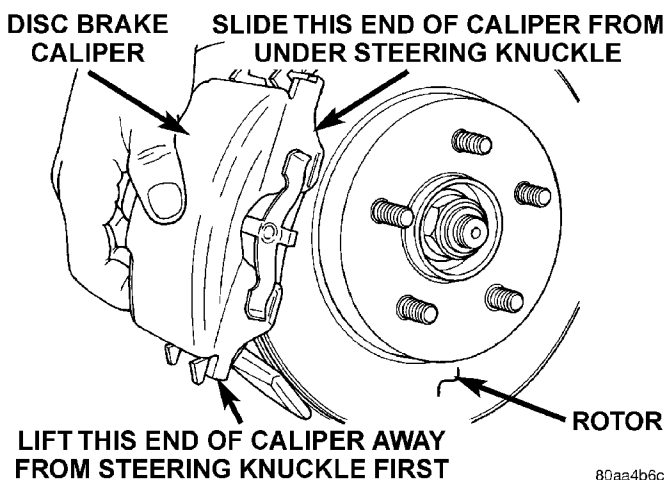

Fig. 55 Removing Caliper Assembly From Steering Knuckle
(4) Remove caliper from steering knuckle, by first rotating free end of caliper away from steering knuckle. Then slide opposite end of caliper out from under machined abutment on steering knuckle (Fig. 55).